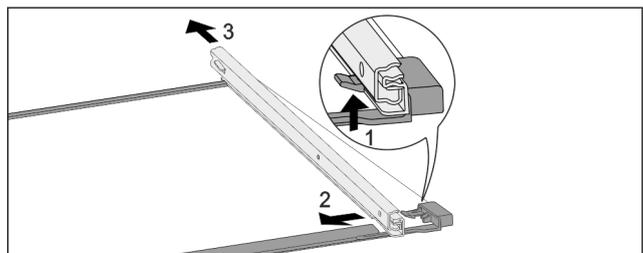

Fig. 180 Glass shelf with rails
- ▶ Push up front click-in hooks. Fig. 180 (1)
- ▶ Slide pull-out rails to the side Fig. 180 (2) and backwards Fig. 180 (3).